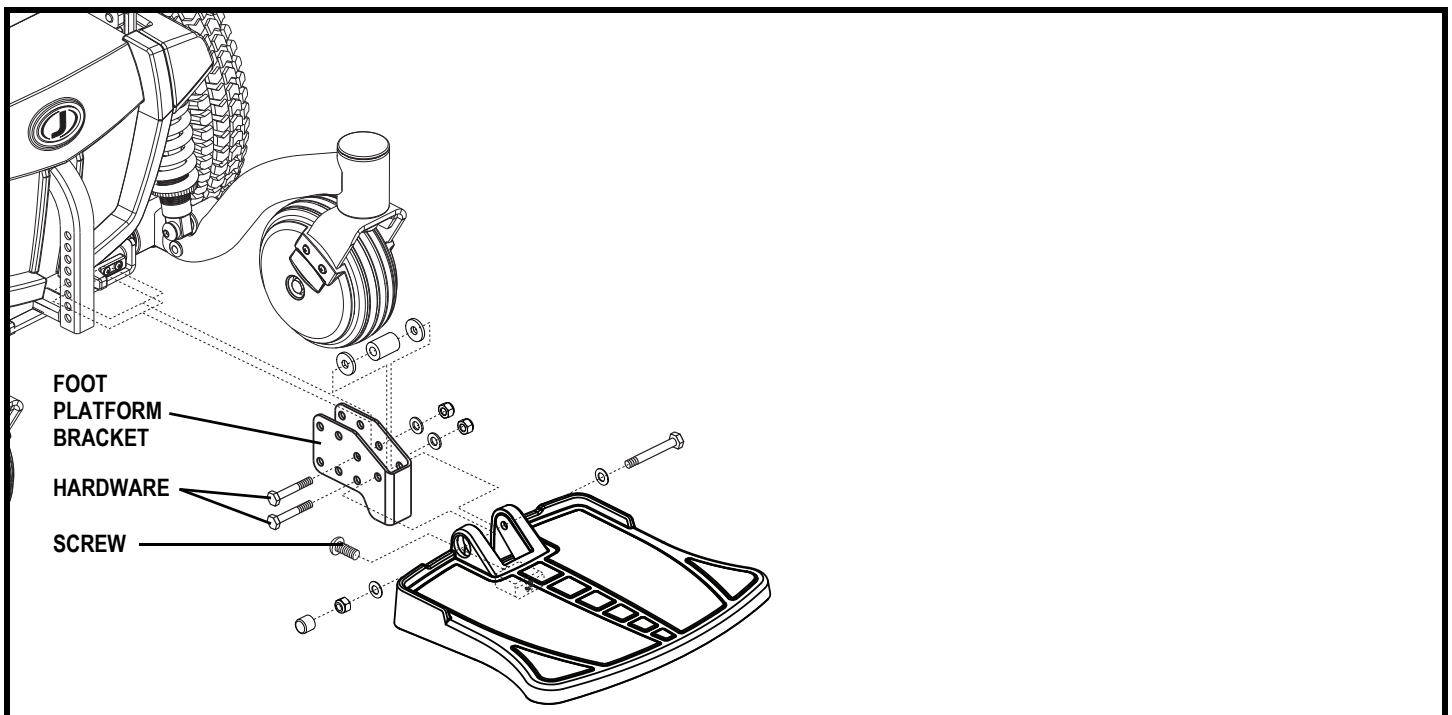

Figure 16. Foot Platform Adjustment
1. Remove the hardware from the foot platform bracket. See figure 16.
1. Flip up the foot platform and locate the screw. See figure 16.